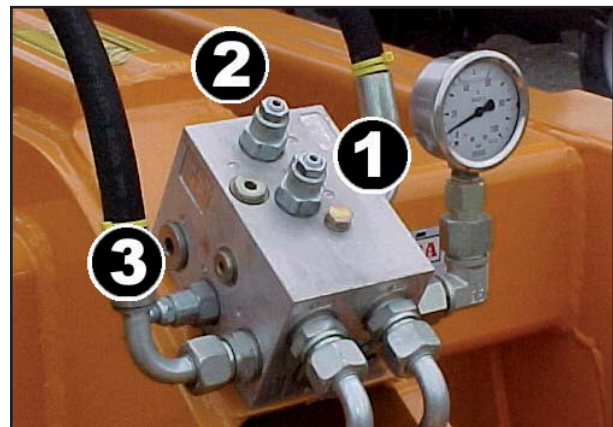

Fig. 2.02: Manifold Block
9. Check the wing pressure on the gauge (shown in Fig. 2.02). If this is above or below the desired value then pressurise the wings to fold which will zero the setting. Increase the pressure on the cylinder side by adjusting the valve (Fig.2.02, valve 3) clockwise.